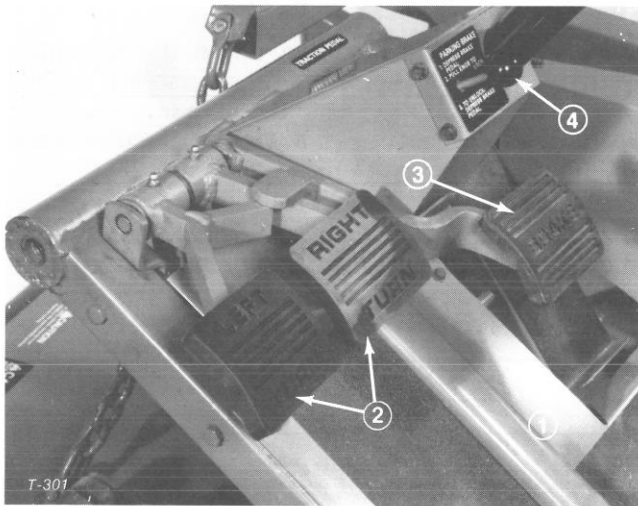

Figure 18
**Traction Pedal (Fig. 18)** — Traction pedal has two functions; one is to make the machine move forward, the other is to make it move backward. Using the heel and toe of the right foot, depress top of pedal to move forward and bottom of pedal to move backward. Ground speed is proportionate to how far pedal is depressed. For maximum ground speed with no load, traction pedal must be fully depressed while throttle is in FAST position. Maximum speed forward is approximately 9.5 mph (15.3 km/hr). To get maximum power under heavy load or when ascending a hill, have throttle in FAST position while depressing traction pedal slightly to keep engine rpm high. When engine rpm begins to decrease, release traction pedal slightly to allow engine rpm to increase.
**Turn Pedals (Fig. 18)** — The left and right turn pedals are connected to the left and right front wheel brakes. Since both brakes work independently of each other, the brakes can be used to turn sharply or to increase traction if one wheel tends to slip while operating on a hillside. However, wet grass or soft turf could be damaged when brakes are used to turn.
**Brake Pedal (Fig. 18)** — Whenever the engine is shut off, the parking brake must be engaged to prevent accidental movement of the machine.